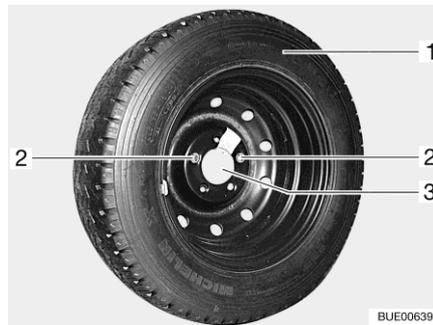

Fig. 305 Spare wheel support in the rear garage
- Loosen and remove both fixing screws (Fig. 305,2) with the on-board tool set.
- Remove the spare wheel (Fig. 305,1) from the support (Fig. 305,3).